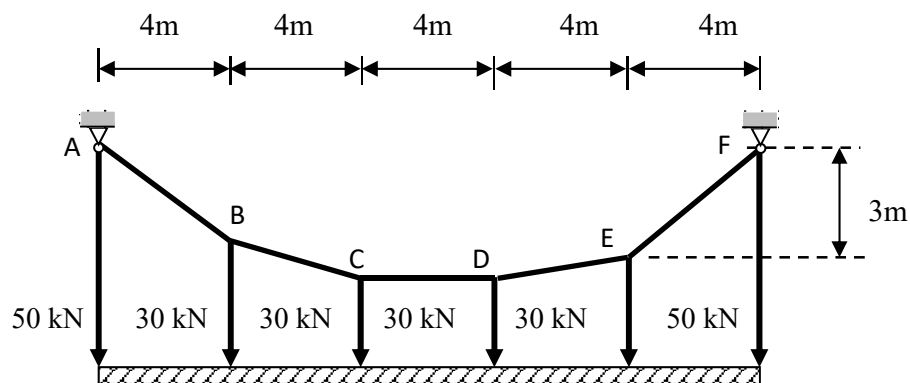

Figure 4/Rajah 4
4. [a] The cable-supported foot bridge shown in **Figure 4** is composed of 6 equally spaced hangers of 4 m apart. Each hanger can be assumed to provide a simple support for the suspended beam with a 50 kN load at both ends and 30 kN for intermediate hangers. Determine the tension forces in each segment of the cables, the total length of cable and the tension forces at both supports. Assume the self weight of the suspended beam is negligible.